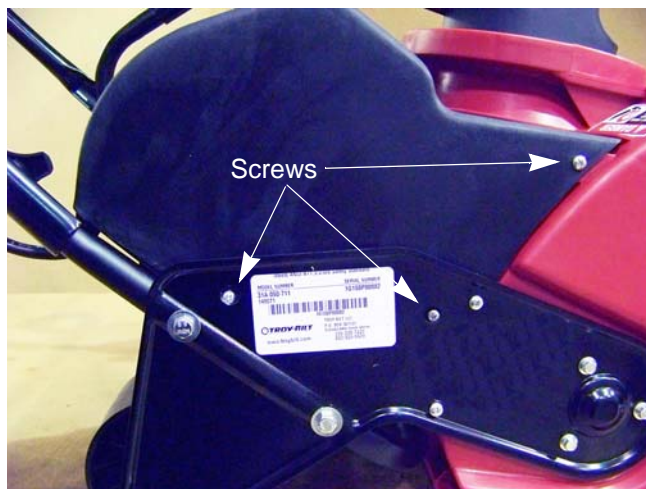

Figure 4.20
4. Remove the three screws that hold the right side of the motor cover to the auger housing using a #2 phillips screw driver. See Figure 4.20.